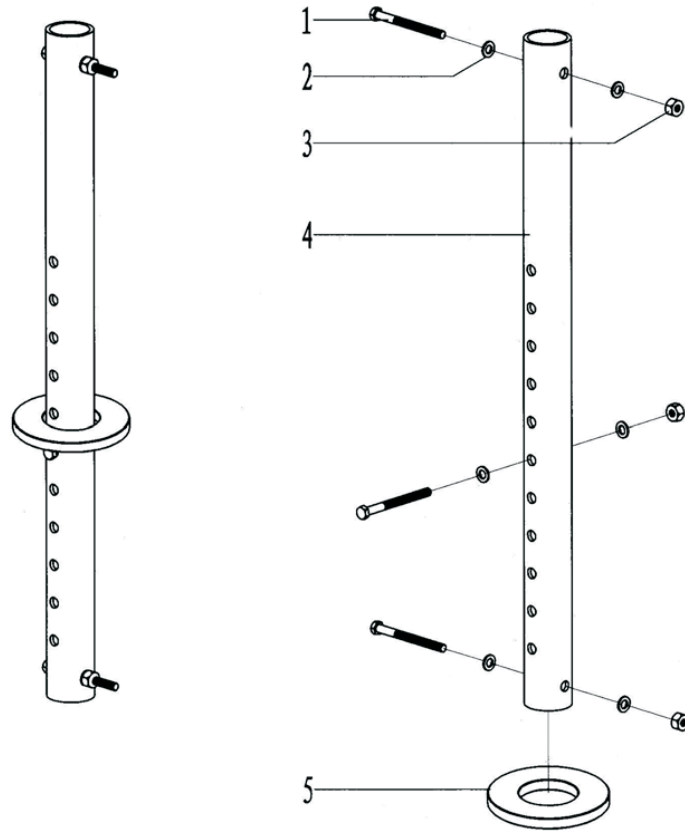

Fig.27
7.24 Front guide pole assembly(Fig.27,Table27)